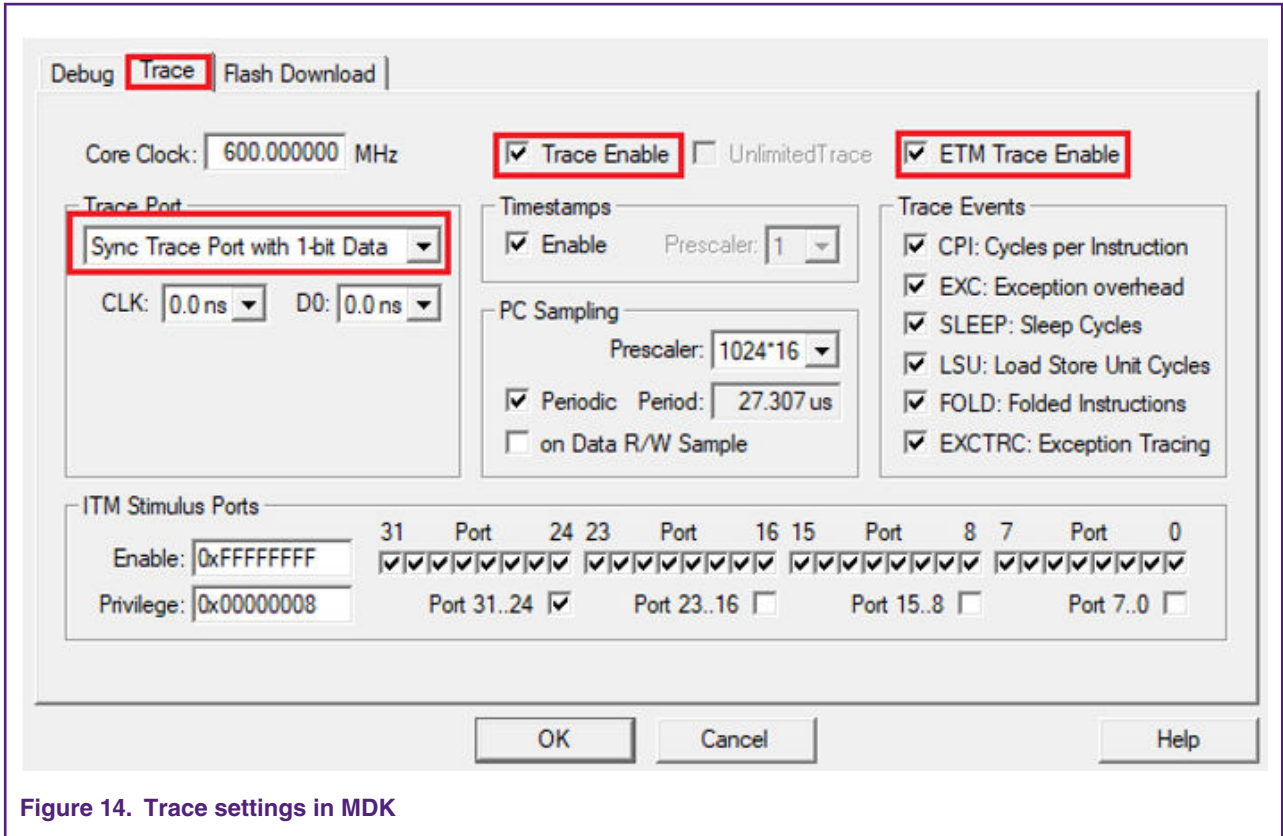

Figure 14. Trace settings in MDK
2. Click **Trace** to set the ETM, as shown in Figure 14. on page 15.